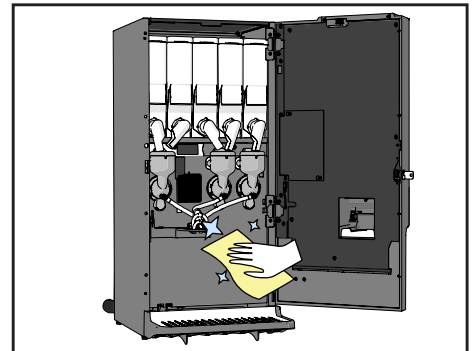

Figure 29.
16. Clean the inside of the machine (see Figure 29).